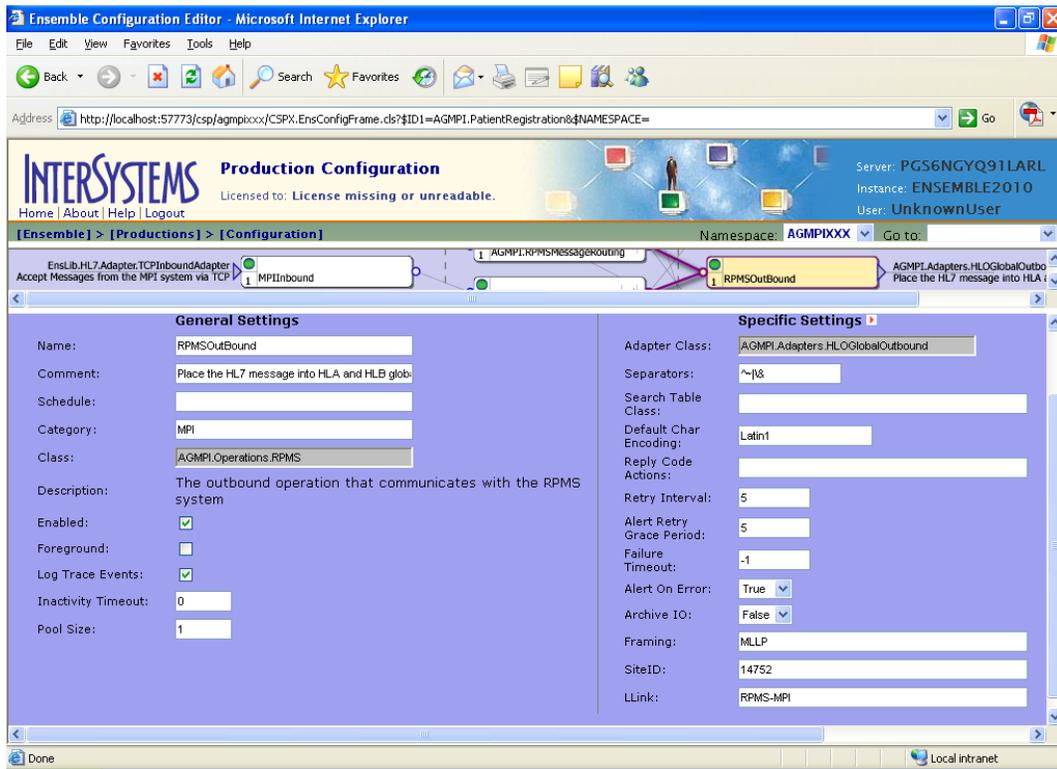

Figure 5-20: RPMSOutBound configuration settings
- Click **RPMSOutBound** in the top pane of the **Ensemble Configuration** page to display the RPMSOutBound configuration settings in the bottom pane, as shown in Figure 5-20.